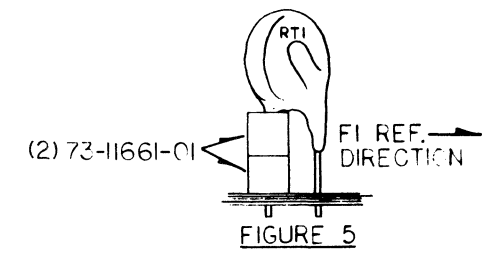

FIGURE 5
5. MOUNT RT1 AS SHOWN IN FIGURE 5.